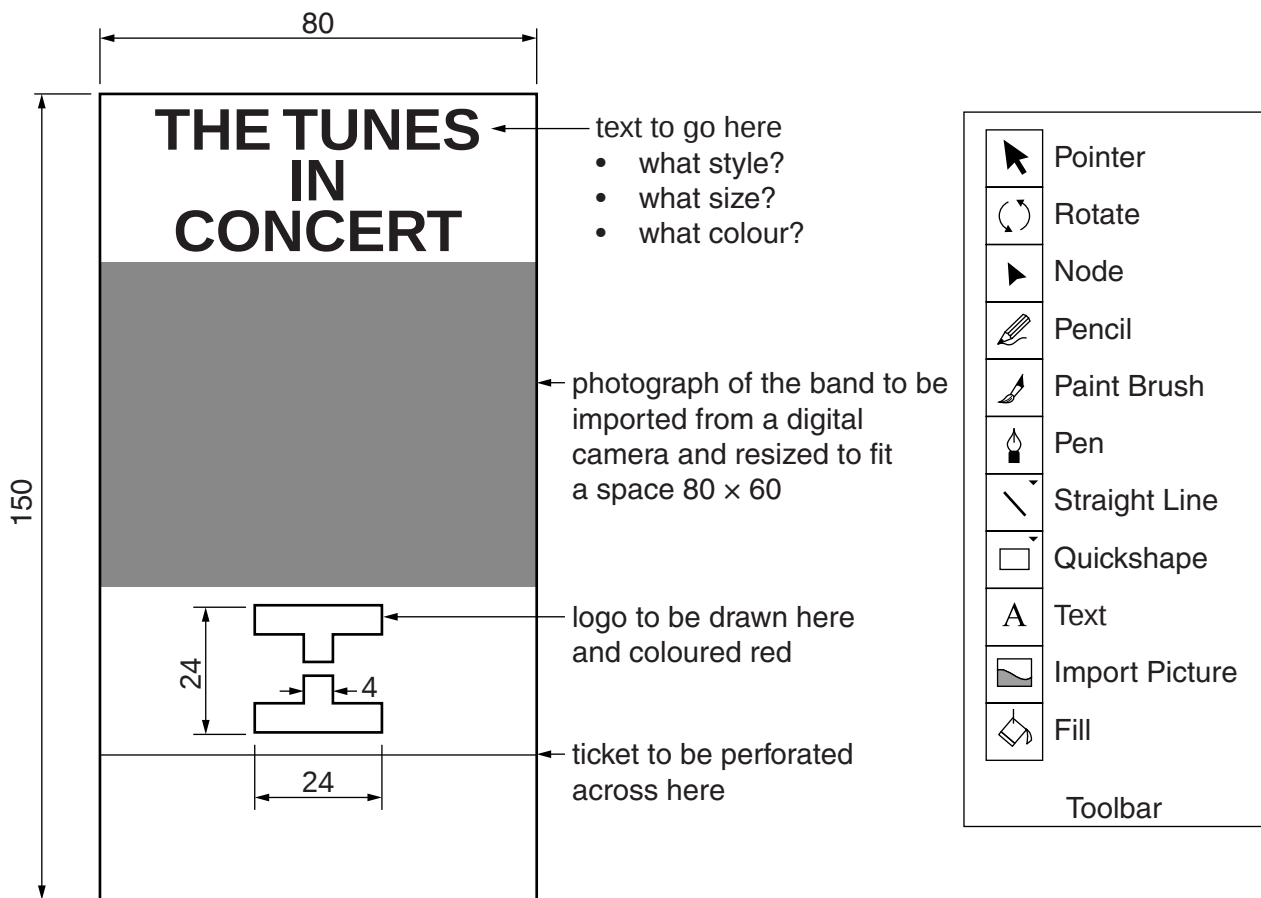

Fig. 3
- 3 Fig. 3 shows an idea for a ticket to a concert to be given by a band called 'The Tunes'. The final design will be produced on a computer using tools from the toolbar shown in Fig. 3.